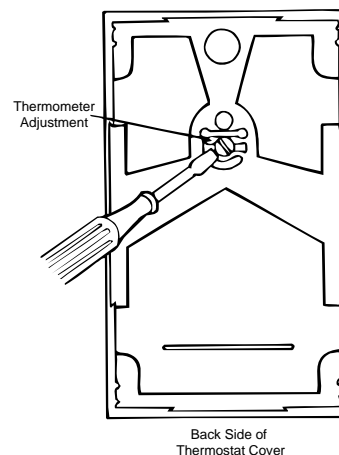

Figure 4. Calibrating Thermostat Thermometer
5. If the thermometer readings are different, insert a small screwdriver blade into the thermometer shaft in the back of the cover. Adjust until the cover thermometer matches the other thermometer (See Fig. 4).